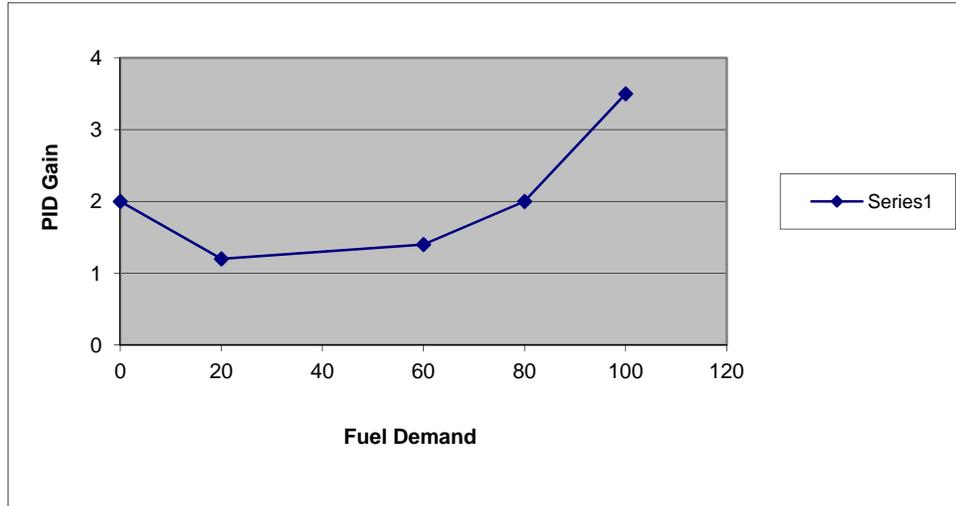

Figure 4-8. Linearized Gain Plot
Note that in both charts the valve position falls on a curve. The menu does not permit the construction of a curve. However, with four slope segments (5 breakpoints) available, a rough approximation of the curve can be created (see Figure 4-8).
Gain settings reflect the sensitivity of the engine load to fuel demand as shown in Figure 4-8. Flat portions of the engine plot will require relatively small values of gain, steep portions of the plot will require larger gain numbers (actuator has to move a lot to pickup small amount of load).
- d. Create a plot of the system by plotting PID GAIN as a function of load. A typical result is shown in Figure 4-8.
- Use the plot of the engine to determine the linearity of the fuel system. This curve should be linearized between inflection points as shown in Figure 4-8.